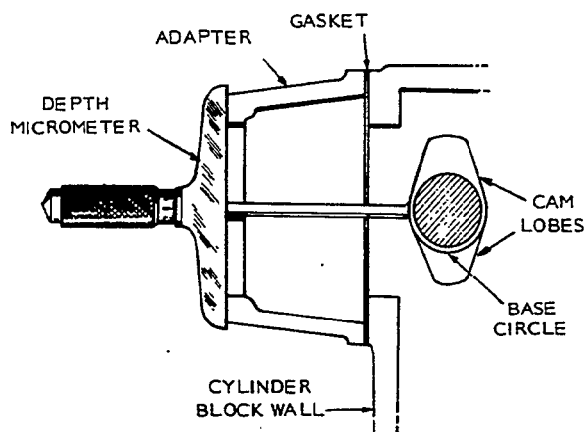

FIGURE 63. MEASURING DEPTH FOR SHIM THICKNESS
2. Determine shim thickness required between pump and adapter, because the new gasket may not be the same thickness as the original one. See Figure 63.
1. Rotate crankshaft to position camshaft so that the pump rollers contact the camshaft base circle (low point of the pump cam lobes). One lobe should be up, the other lobe down. See Figure 63.